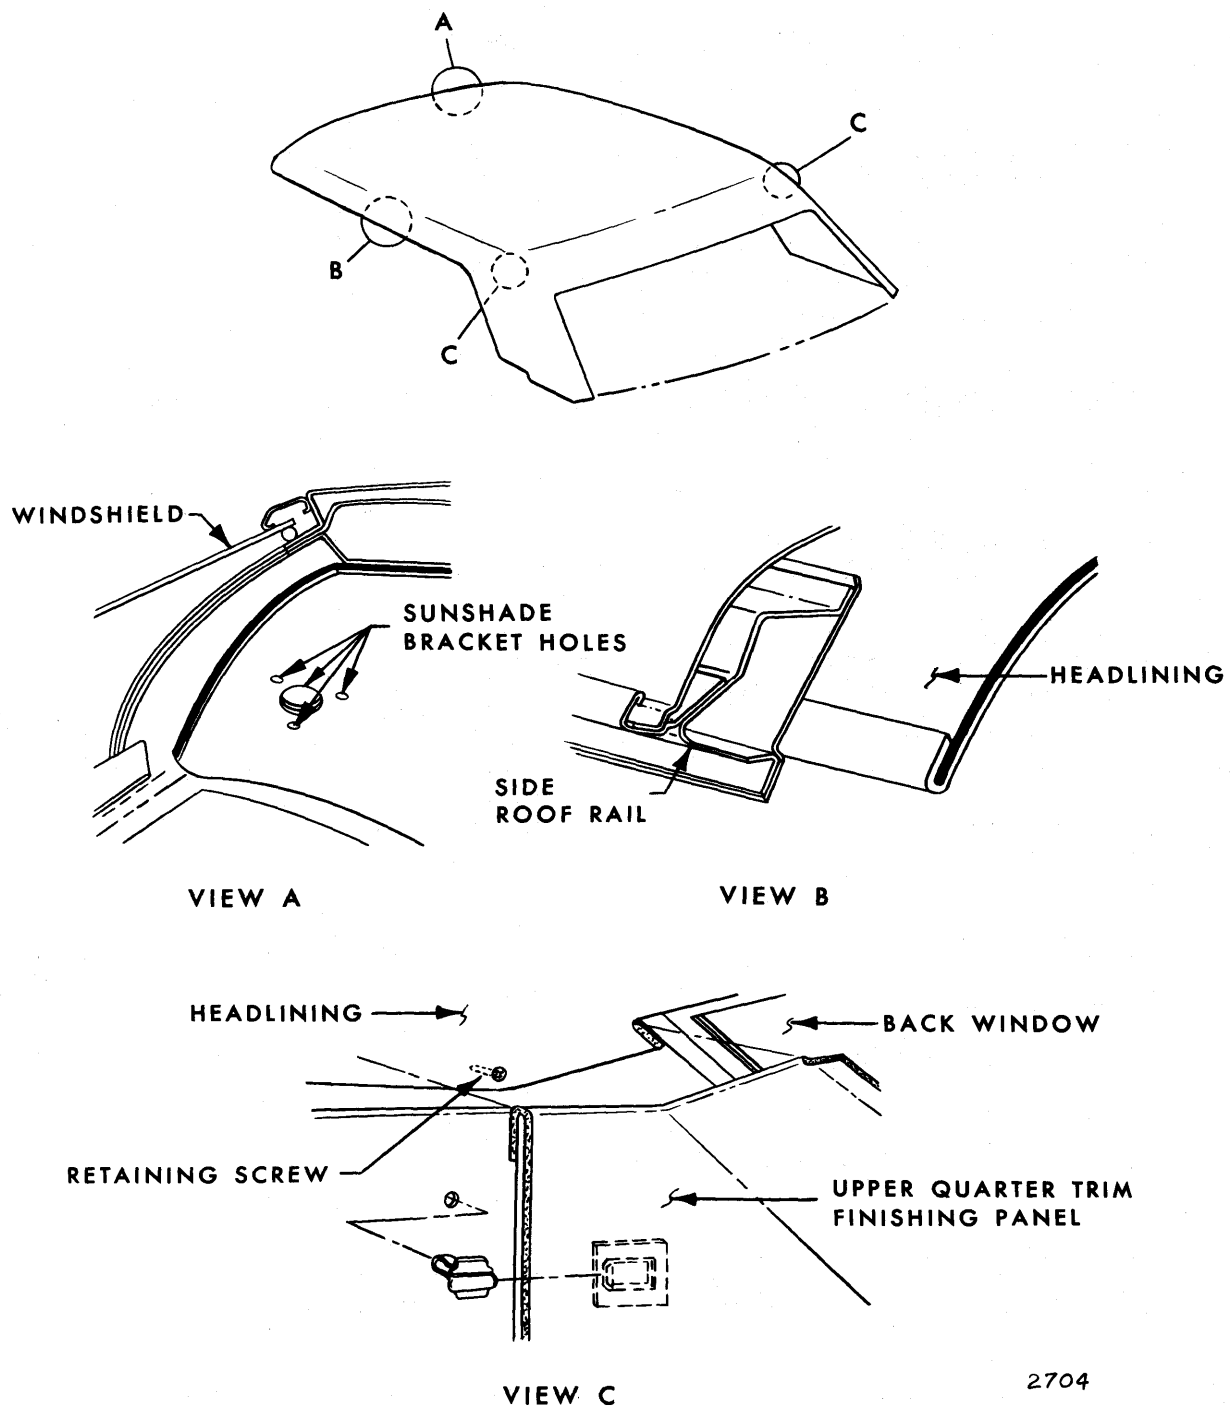

Fig. 11-6—One Piece Formed Headlining Installation
NOTE: These screws are exposed after upper quarter trim finishing panel is removed (View "C" in Fig. 11-6).
NOTE: In some instances it may be necessary to slightly press headlining upward and laterally in order to disengage headlining from side roof rails (See View "B" in Fig. 11-6).
1. Position headlining to roof panel making certain holes in rear of headlining align with holes in sail area and holes for sunshade brackets align with holes in roof panel (Views "A" and "C" in Fig. 11-6).
NOTE: Sides of headlining must rest on side roof rails (View "B" in Fig. 11-6). Headlining must also be held in place while the following steps are performed.
4. While firmly pressing on headlining, insert screws at upper rear corners of headlining. Make certain screws are completely driven. (View "C" in Figure 11-6).